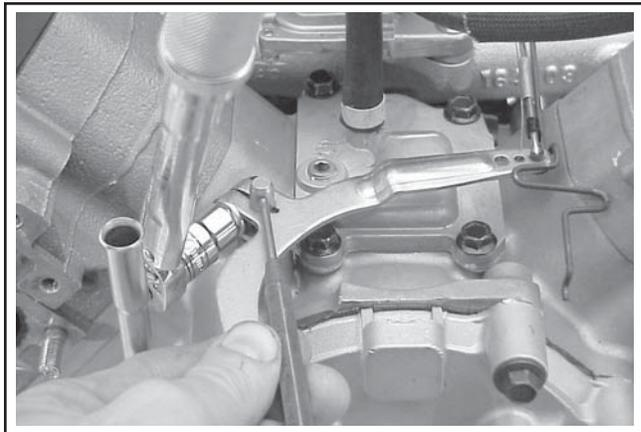

Figure 11-86. Setting Governor and Tightening Nut.
3. Insert a nail into the hole in the cross shaft and rotate the shaft **COUNTERCLOCKWISE** as far as it will turn. Then torque the hex nut to **6.8 N·m (60 in. lb.)**. See Figure 11-86.